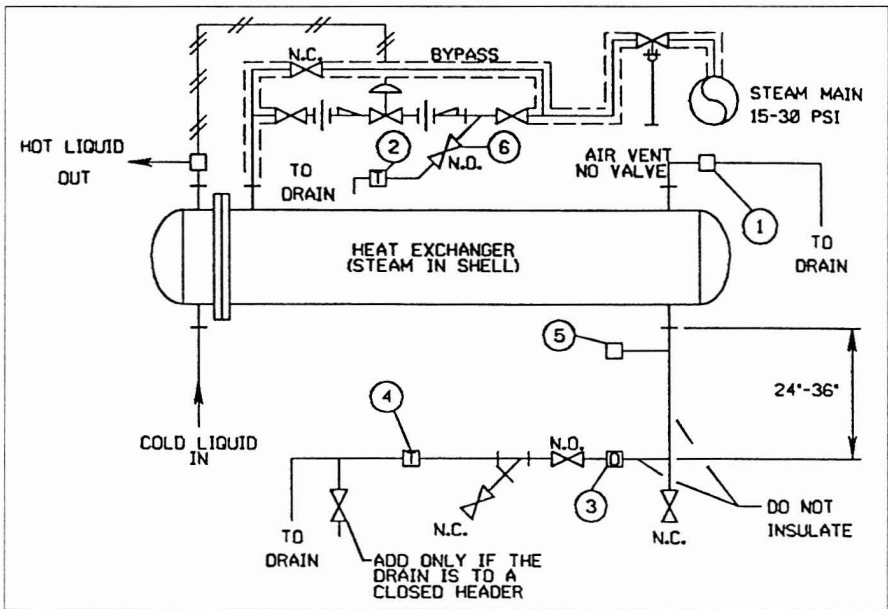

Figure 2. Correct Piping Sketch (example)
- Sketches of the *proper* piping arrangements to all your basic equipment showing the traps, strainers, air vents, vacuum breakers, etc. These diagrams need to apply only to your plant, not to the hundreds of possibilities found in an all-purpose publication. See Figure 2.